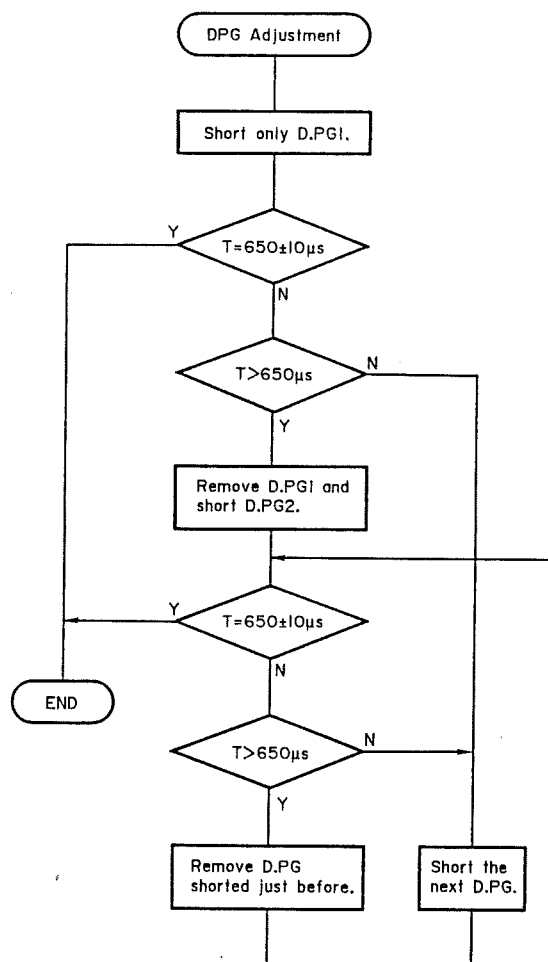

Fig. 5.5 DPG Adjustment Flow Chart
Set jumper pins to TE.CN-10 referring to the flow chart shown in Fig. 5.5. Fig. 5.6 shows the relationship between -D.PG pin shorting and change in "T".
1. Following the flow chart in Fig. 5.5, remove the jumper pin of D.PG1 and then insert a jumper pin into D.PG2.